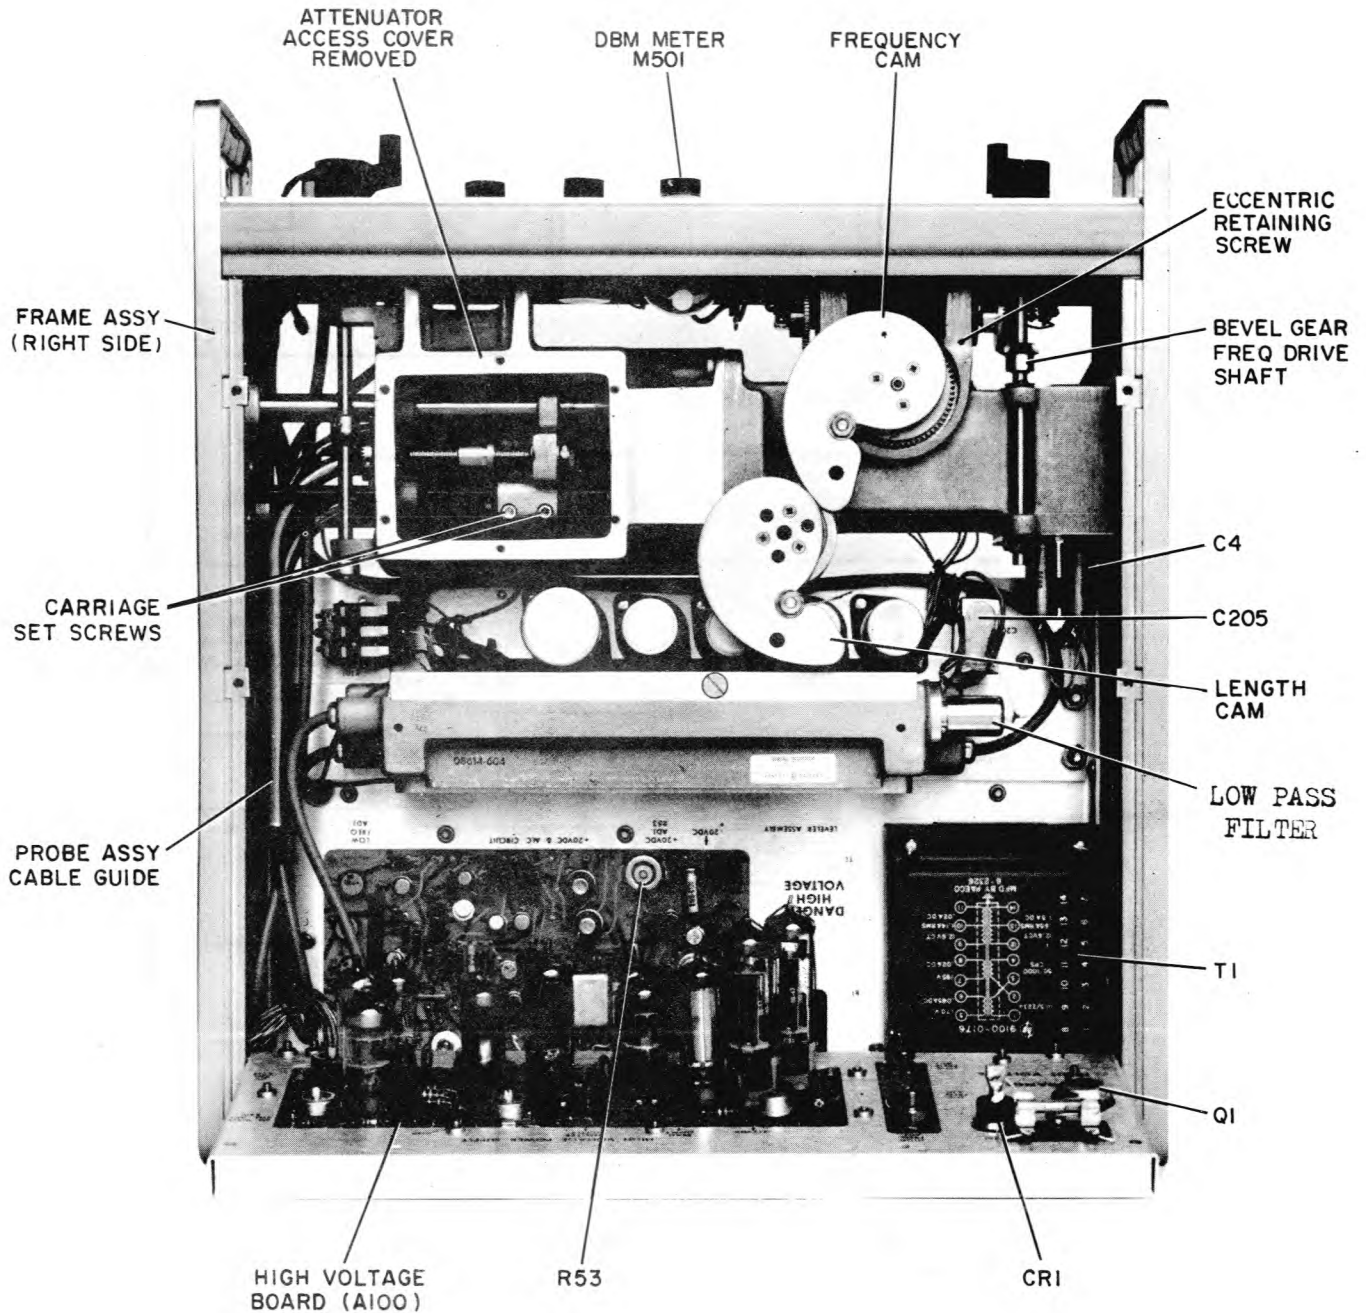

Figure 5-13. Instrument Top View, Cover Removed
- c. Remove attenuator access cover from klystron cavity casting (see Fig. 5-13)
- (1) Adjustments should allow about 2-MHz variation with ΔF control.
- (2) The tracking pots interact making it necessary to repeat the adjustments a time or two in order to insure proper tracking.
d. Connect a clip-on milliammeter to wire on center feed-through capacitor, C4 (wht /orn /vio wire, see Figure 5-13). Current must not exceed 30 mA unless klystron is defective.
e. Set actual frequency to 1000 MHz. Loosen spur gear on worm shaft and rotate gear until frequency dial reads 1000 MHz (see Figure 5-13).
f. Check FREQUENCY(MC) dial settings at both upper and lower ends of dial travel. The respective dial end points should be less than 800 MHz and greater
2. If it is not, loosen the two setscrews in the attenuator drive shaft bevel gear (see Figure 5-13 P/O Errata). With the bevel gear loose, turn the attenuator gear with your fingers until the output power is -11 dBm . Without disturbing the -11 dBm power setting, turn the attenuator knob on the front panel until the attenuator counter reads 012 dB. Tighten the two setscrews in the bevel gear.
2. If it does not, the RF UNCAL probe requires adjustment. The front right side panel should be removed, exposing the probe assembly cable guide. Remove the screw in the cable guide that is in line with the UNCAL probe retaining screw (see Figure 5-13 P/O Errata). Insert a long Allen wrench through the hole left by removing the cable guide screw into the UNCAL probe retaining screw. Turn the retaining screw to adjust the UNCAL probe penetration for $-3 \text{ dBm} \pm 0.3 \text{ dBm}$ output.
2. If it is not, the ALC attenuator probe requires adjustment. The front right side panel should be removed, exposing the probe assembly cable guide. Remove the screw in the cable guide that is in line with the ALC probe retaining screw (see Figure 5-13 P/O Errata). Insert a long Allen wrench through the hole left by removing the cable guide screw into the ALC probe retaining screw. Turn the retaining screw to adjust the ALC probe penetration for $120 \text{ mV} \pm 2 \text{ mV}$ at the ALC crystal output.